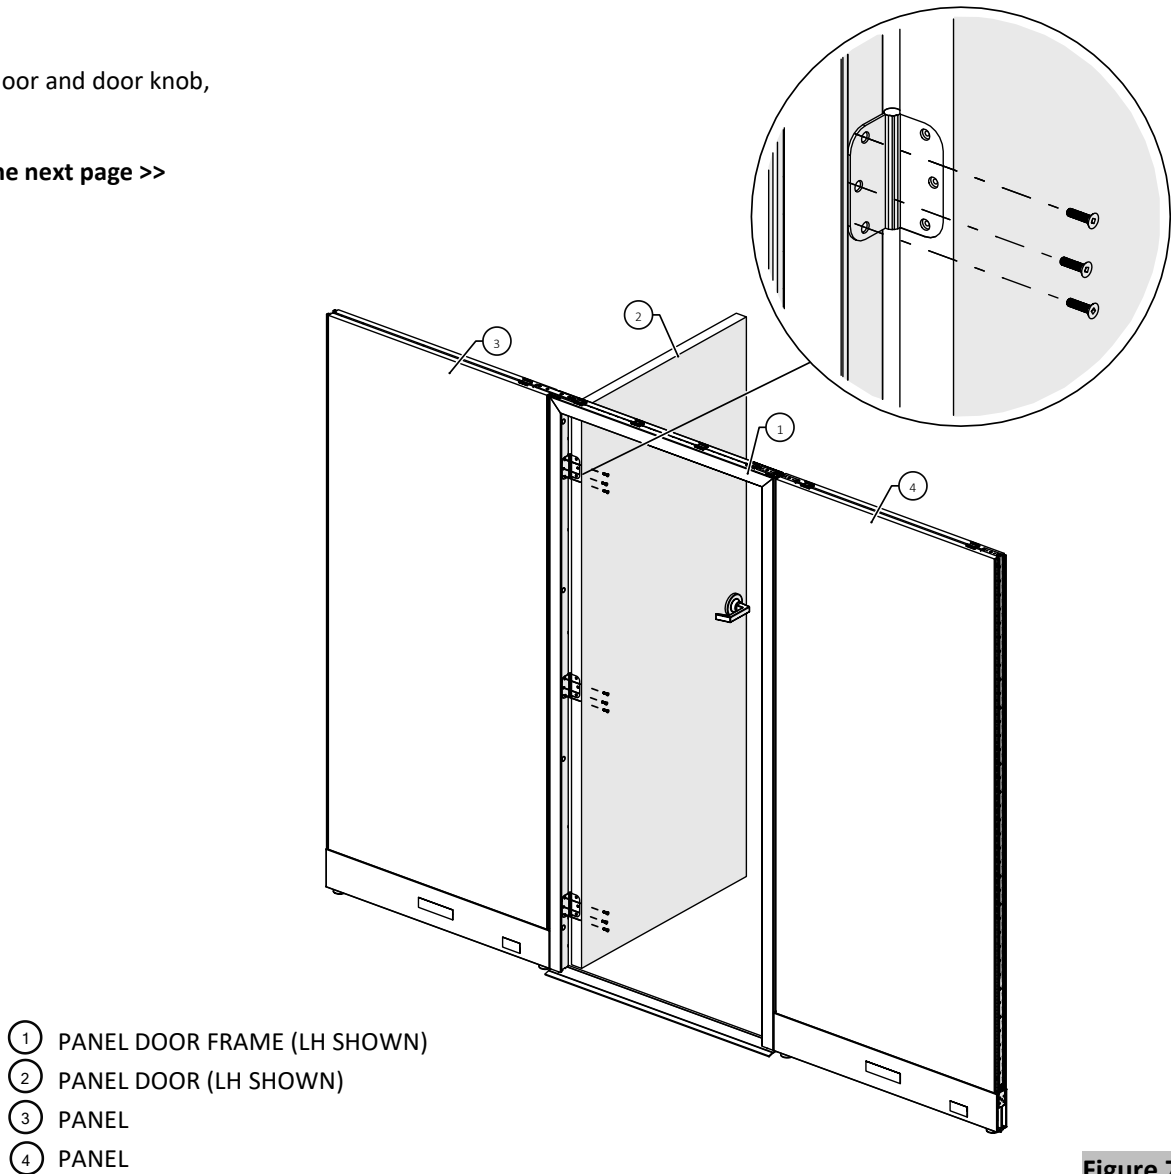

Figure 7
7. Install the door and door knob, (Figure 7).